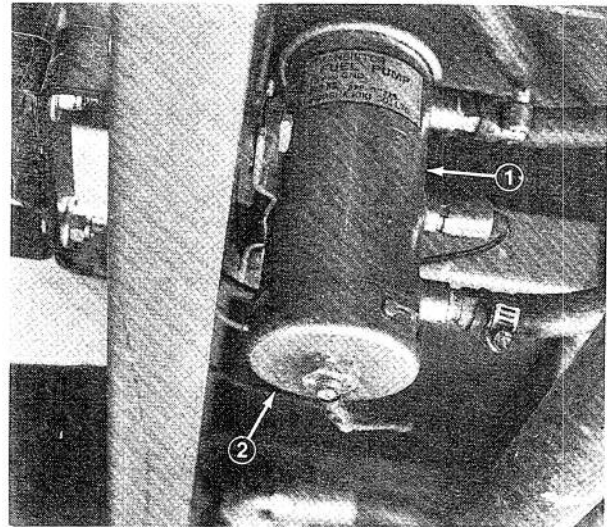

Figure 36
1. Fuel pump is located on inner frame on alternator side of engine (Fig. 36).